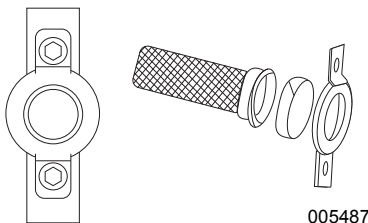

Figure 4-6. Spark Arrestor Screen
1. See Figure 4-6. Remove the clamp to remove retainer.